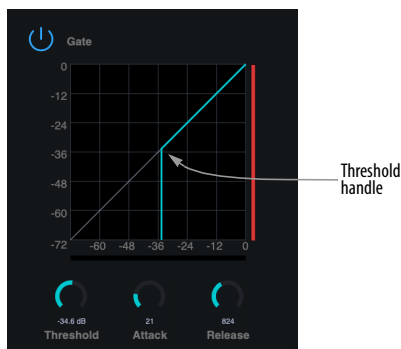

Figure 6-1: The Gate.
Mic/line/inst channels 1-2 (item 1 on page 38) provide a *Gate* (Figure 6-1).